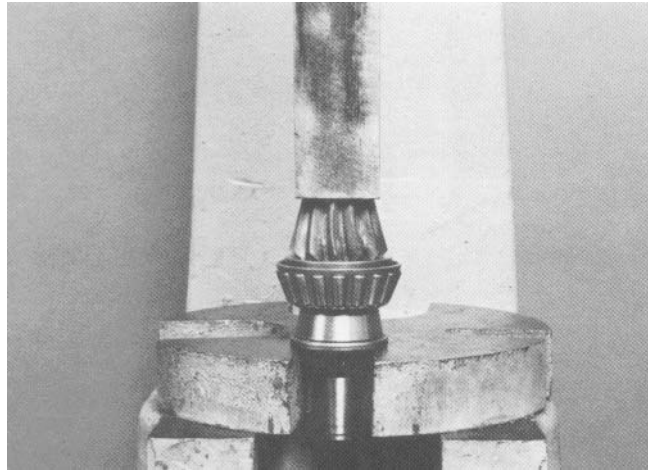

Figure 37
2. Press new pinion inner bearing cone onto the pinion drive gear. Support the bearing on the inner cup of the bearing ONLY WHEN INSTALLING (Fig. 37).